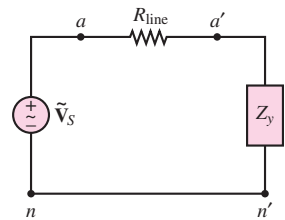

Figure 7.45 One phase of the three-phase circuit
**Analysis:** Since the circuit is balanced, we can use per-phase analysis, and the current through the neutral line is zero, that is,  $\tilde{V}_{n-n'} = 0$ . The resulting per-phase circuit is shown in Figure 7.45. Using phase  $a$  for the calculations, we look for the quantity
**Comments:** Note that since the circuit is balanced, there is zero voltage across neutrals. This fact is shown explicitly in Figure 7.45, where  $n$  and  $n'$  are connected to each other directly. Per-phase analysis for balanced circuits turns three-phase power calculations into a very simple exercise.